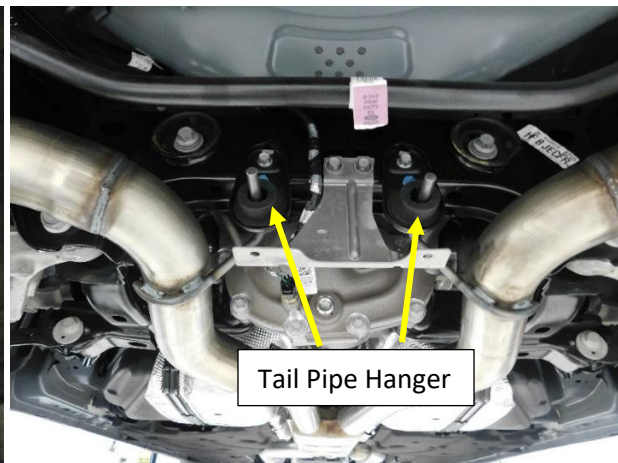

Figure.4
5. Remove the tail pipe hanger mounting Bolts but do not remove the hangers. **Fig.4**